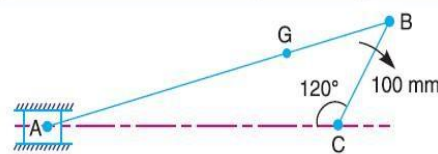

Fig. 8.5
6. An engine mechanism is shown in Fig. 8.5. The crank $CB = 100$ mm and the connecting rod $BA = 300$ mm with centre of gravity G , 100 mm from B . In the position shown, the crankshaft has a speed of 75 rad/s and an angular acceleration of 1200 rad/s². Find: 1. Velocity of G and